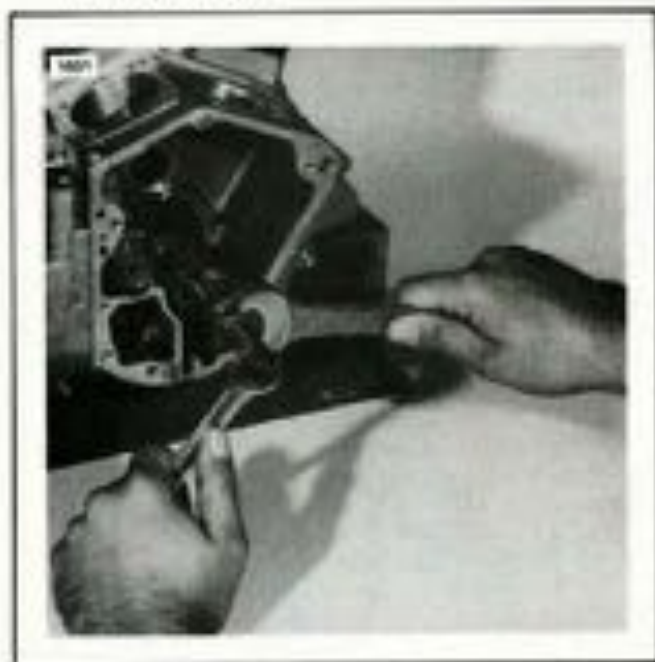

Figure 3-29. Pulling Pinion Gear
2. Remove two ignition sensor cover screws (6), cover (7) and gasket (8).
3. Remove sensor plate screws and lockwashers (9).
5. Remove bolt (11) and rotor (12).
7. Tap gearcase cover with wood or rawhide mallet to loosen and remove gear cover (16) and gearcase cover gasket (17).
8. Remove breather valve spacing washer (18) and breather gear (19).
9. Remove cam gear (20), spacing washer (21) and thrust washer (22).
10. Remove pinion gear shaft nut (23) which has a left-hand thread. Use PINION SHAFT NUT SOCKET, Part No. HD-94555-55A. Pull pinion gear (24) using PINION GEAR PULLER AND INSTALLER, Part No. HD-96630-51A, as shown in Figure 3-29. Tool has left-hand threads.